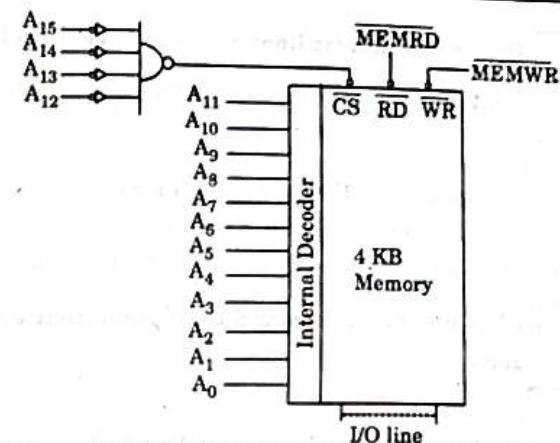

Fig. 1.10.1. Memory map : 4 KB of memory.
- Fig. 1.10.1 shows a memory chip of 4 KB. The memory size of chip is expressed as,